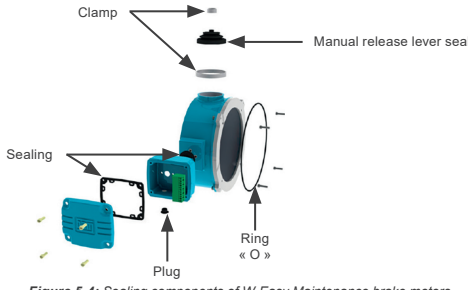

Figure 5.4: Sealing components of W-Easy Maintenance brake motors
(2) W-Easy Maintenance brake sealing components are shown in Figure 5.4.
9. For motors supplied with manual release, reinstall the manual release lever and its sealing (which must be fastened by clamps – see Figure 5.4).